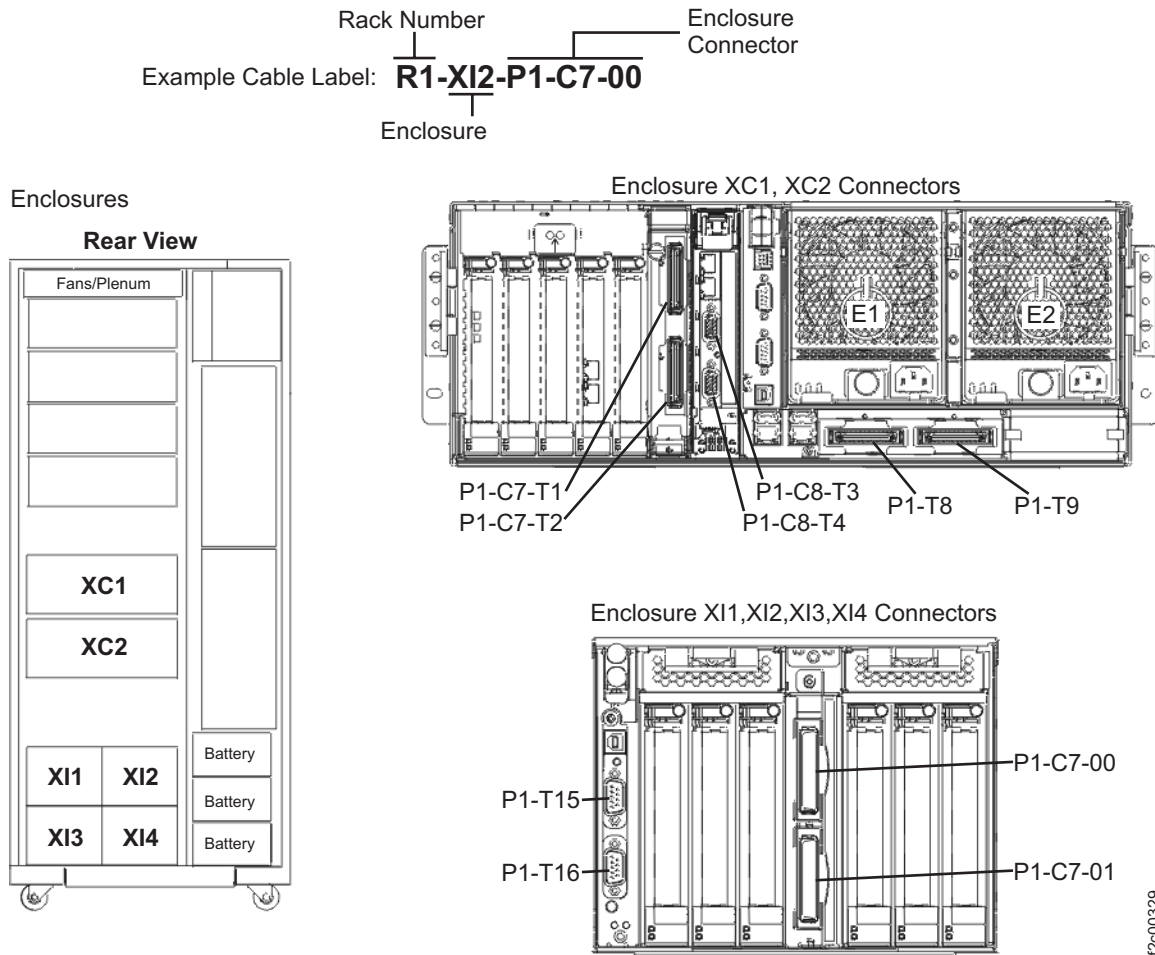

Figure 26. RIO and SPCN cable label locations
13. Locate the thick black RIO cables that will be coiled near the tailgate and uncoil them. Locate the destination labels that are attached to the cables and identify to which rack and I/O enclosure the cables need to be routed. Refer to Figure 26.
17. Plug the RIO-G and SPCN cables into the indicated connector on the destination I/O enclosure. Figure 26 on page 30 displays the connector locations.